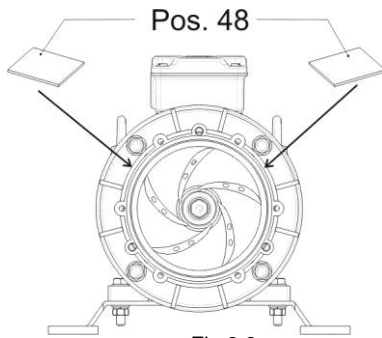

Fig.8.6
- the seal (rotating seal pos. 24 or pos. 26)
assemble the complete intermediate casing (inclusive of barrier pos. 48 if present – fig. 8.6) on the shaft (pos. 11) previously locked on the electric motor shaft.